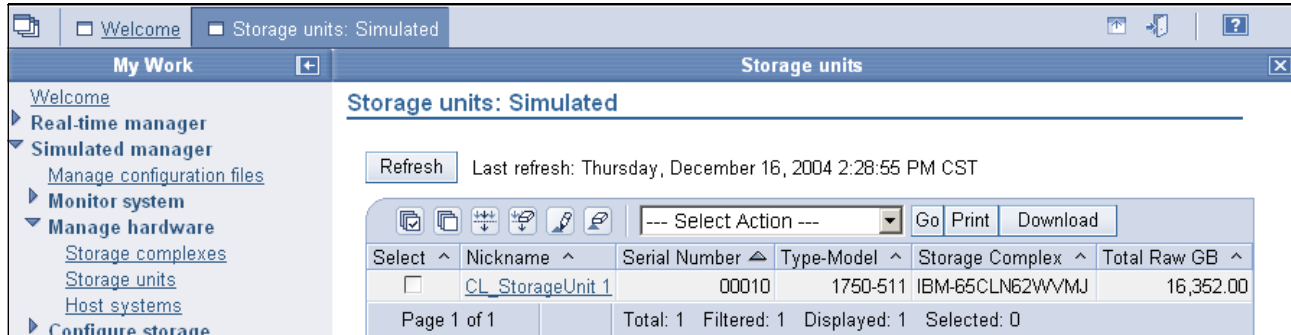

Figure 9-50 View of the Real-time Manager panel
1. Click **Simulated manager** as shown in Figure 9-50.